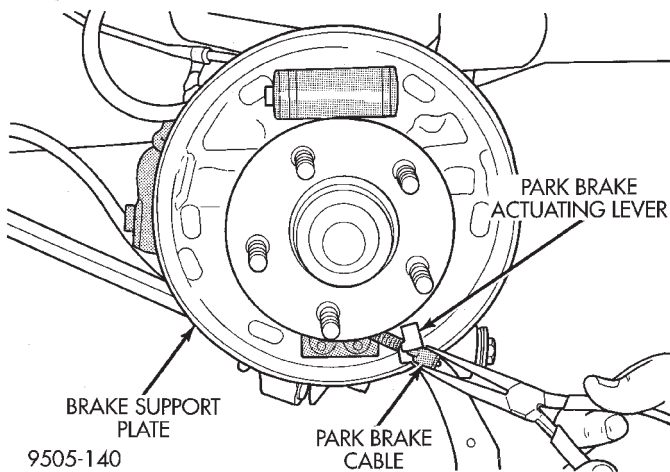

Fig. 114 Park Brake Cable To Actuator Lever Attachment
(13) Remove the park brake cable from the park brake actuating lever, (Fig. 114) attached to the trailing brake shoe assembly. Do not attempt to remove actuating lever from brake shoe assembly.
(2) Install the park brake cable on the park brake actuating lever of the trailing brake shoe (Fig. 114).